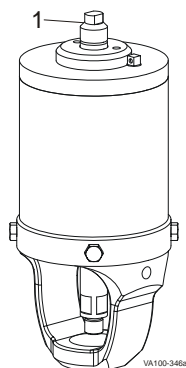

Figure 4 : Actuator Indicator Stem
1. Remove the current indicator stem (Figure 4, item 1).